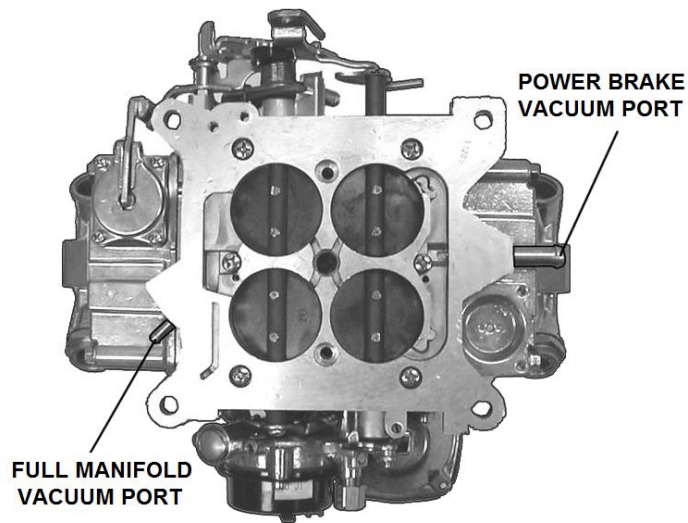

Figure 6
8. Connect the power brake hose to the ports shown in Figure 6.
1. Attach the vacuum gauge to a manifold vacuum port on the throttle body (Figure 6).